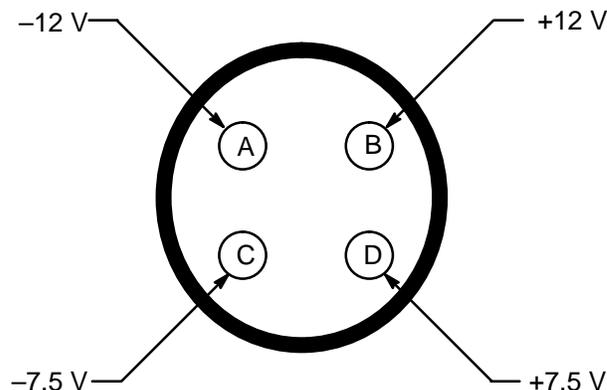

Figure 1. Power Connector Pin Voltages
4. Verify that the voltages on the connector pins (on the connector mounted to the chassis) match the voltages shown in Figure 1.